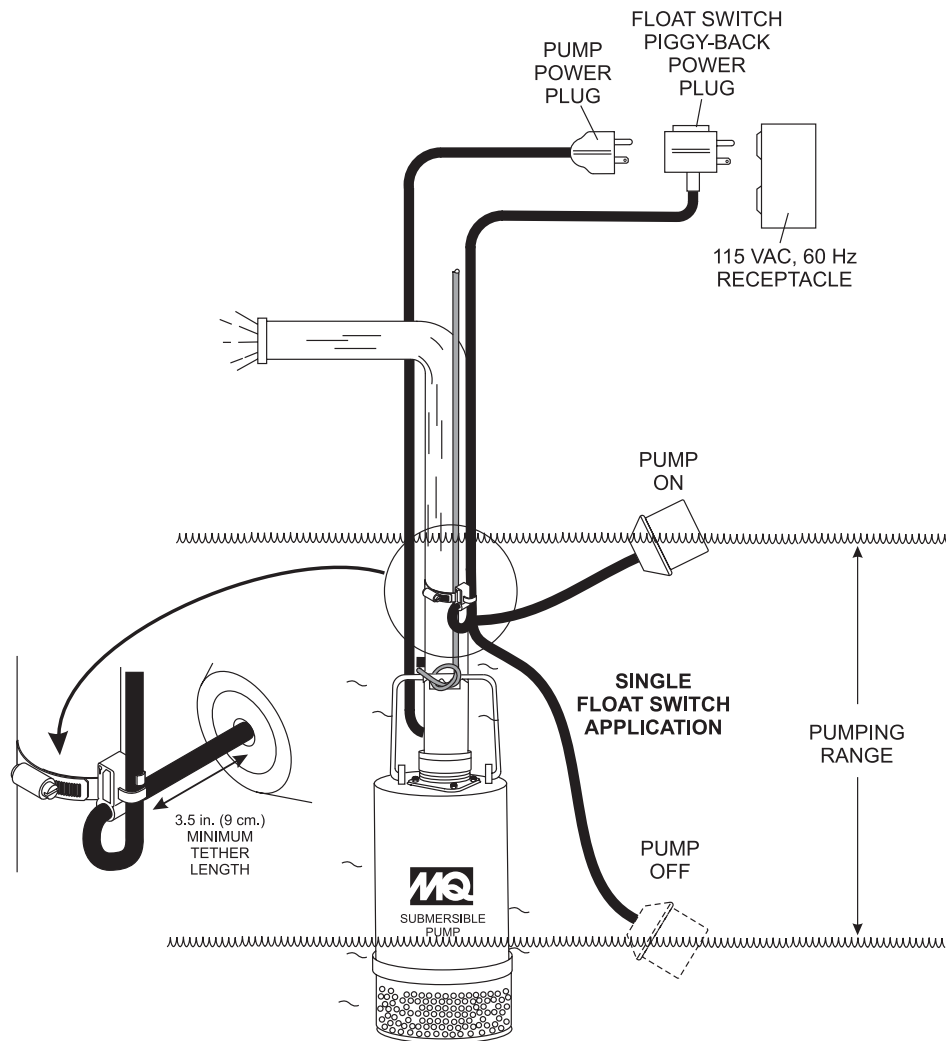

Figure 6. Single Float Switch Application Diagram
Single or **dual** control float switches (Figure 6) can be used for the unattended operation of the submersible pump. When using the **piggy-back power configuration** (plug), the ST-2010 series pumps **DO NOT** require the use of a control box. In this configuration (piggy-back), the SW-1 (single float switch) or SW-2 (dual float switch) are required. The illustration below is an example of a single float switch application.
1. Determine the required **cord tether length** as shown in Figure 6 and Table 3.
2. Place the cord into the clamp as shown in Figure 6.
Figure 6 shows a **single float** switch application. For dual float switch capability use a **Model SW-2** mercury type float switch.
2. Connect the float switch or switches to the AC power receptacle as shown in Figure 6.
1. Remove the float switch input connector housing, then route the float switch wires through the cable gland on the control box. Attach the wires of the float switch to the terminal block as indicated by Table 5 and Figure 6.